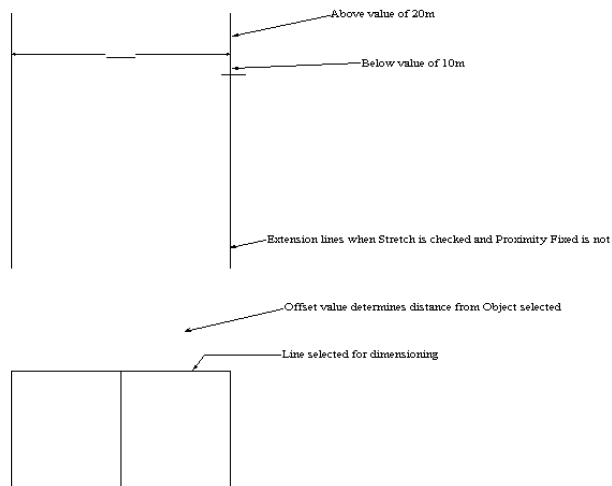

Figure 2-22 - Dimension Stretch
**Offset, Above, Below with Stretch on:** When “Stretch” is checked, the extension lines stretch to reach the drawing object (minus the “Offset” distance). When unchecked, the “Offset” setting is ignored, and the extension lines follow the setting of the “Below” distance. If “Proximity Fixed” is checked when “Stretch” is checked, “Stretch” is ignored as the dimension is placed at the offset distance (see Figure 2-22).